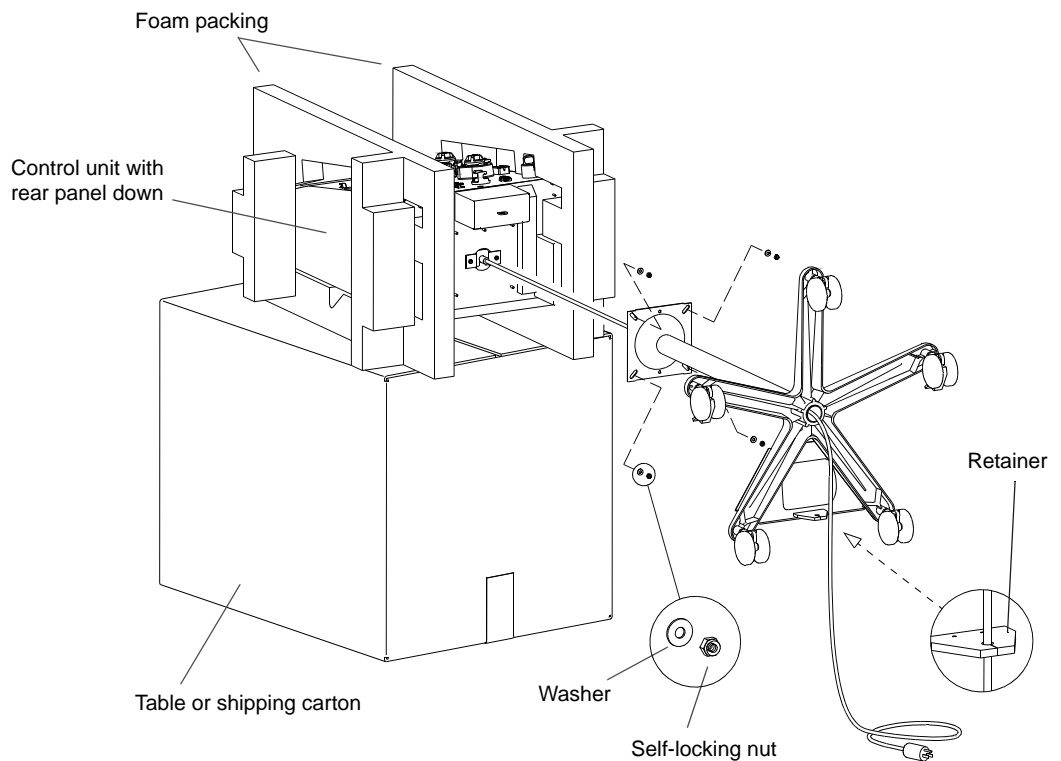

Figure 5. Attaching Column/Base to the PRISMA Control Unit
7. Lift the column/base assembly, slide it over the power cord, and place the plate over the four large studs on the bottom of the control unit. Note the orientation of the base with respect to the control unit (See Figure 5).
8. Secure the base to the control unit with a flat washer and a #10 self-locking nut at each corner of the plate. Tighten the nuts using a 3/8-inch wrench (See Figure 5).
9. Secure the power cord to the retainer located on the edge of the storage tray for the calibration weights. To secure, twist the tabs on the retainer and slide the cord between the tabs (See Figure 5).